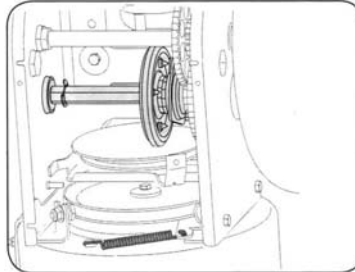

Fig. 16
2. Apply a light coating of an all-weather multi-purpose grease to the hex shaft. See Fig. 16.